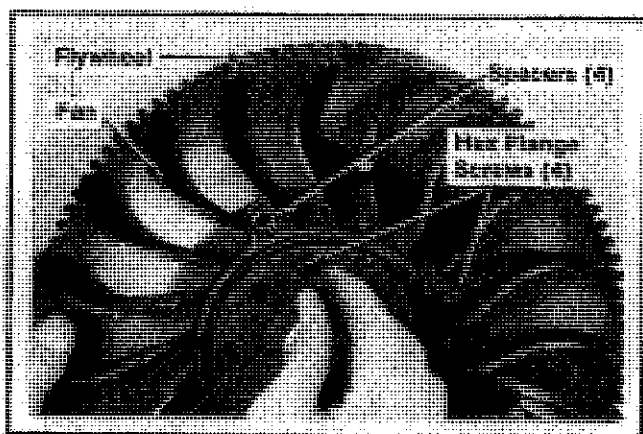

Figure 9-19. Removing Fan From Flywheel.
4. Remove the hex flange screws, spacers, and fan. Refer to Figure 9-19.